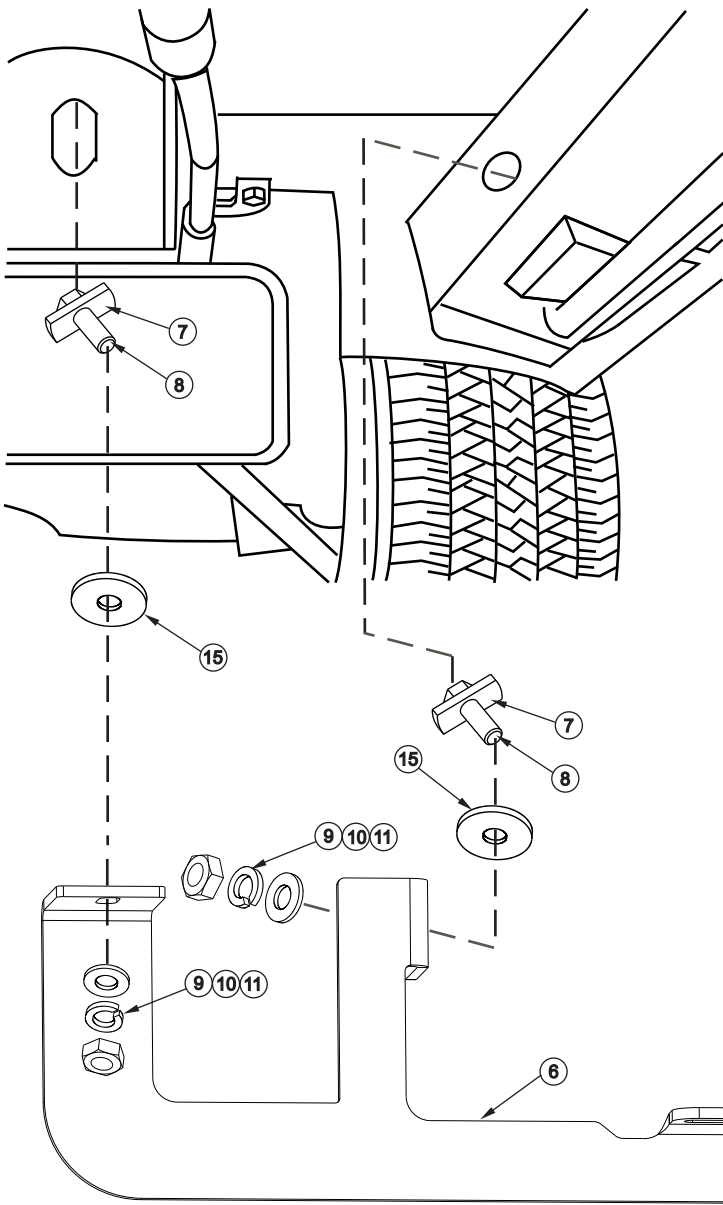

FIGURE 1 INSTALLATION OF REAR DRIVER SIDE SHOWN. PASSENGER REAR OPPOSITE
- STEP 3. Thread 3/8-16 x 1.25" hex head bolts through bridge weld nuts, insert into holes, and use plastic washers to hold in place. SEE FIGURES 1 AND 2.
- STEP 4. Attach driver side brackets to the previously assembled 3/8" bolt plate using four 3/8" flat washers, 3/8" lock washers, and 3/8-16 hex nuts as shown. SEE FIGURES 1 AND 2.